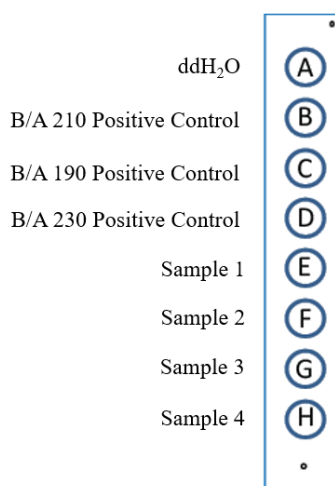

Figure 2. Sample and control distribution in the 8-tubes strips.
- e. **ADD** 5 μL of each cDNA templates and positive control as well as ddH₂O into PCR mix. A Layout example is shown in **Figure 2** (take 8-tubes strips for example).